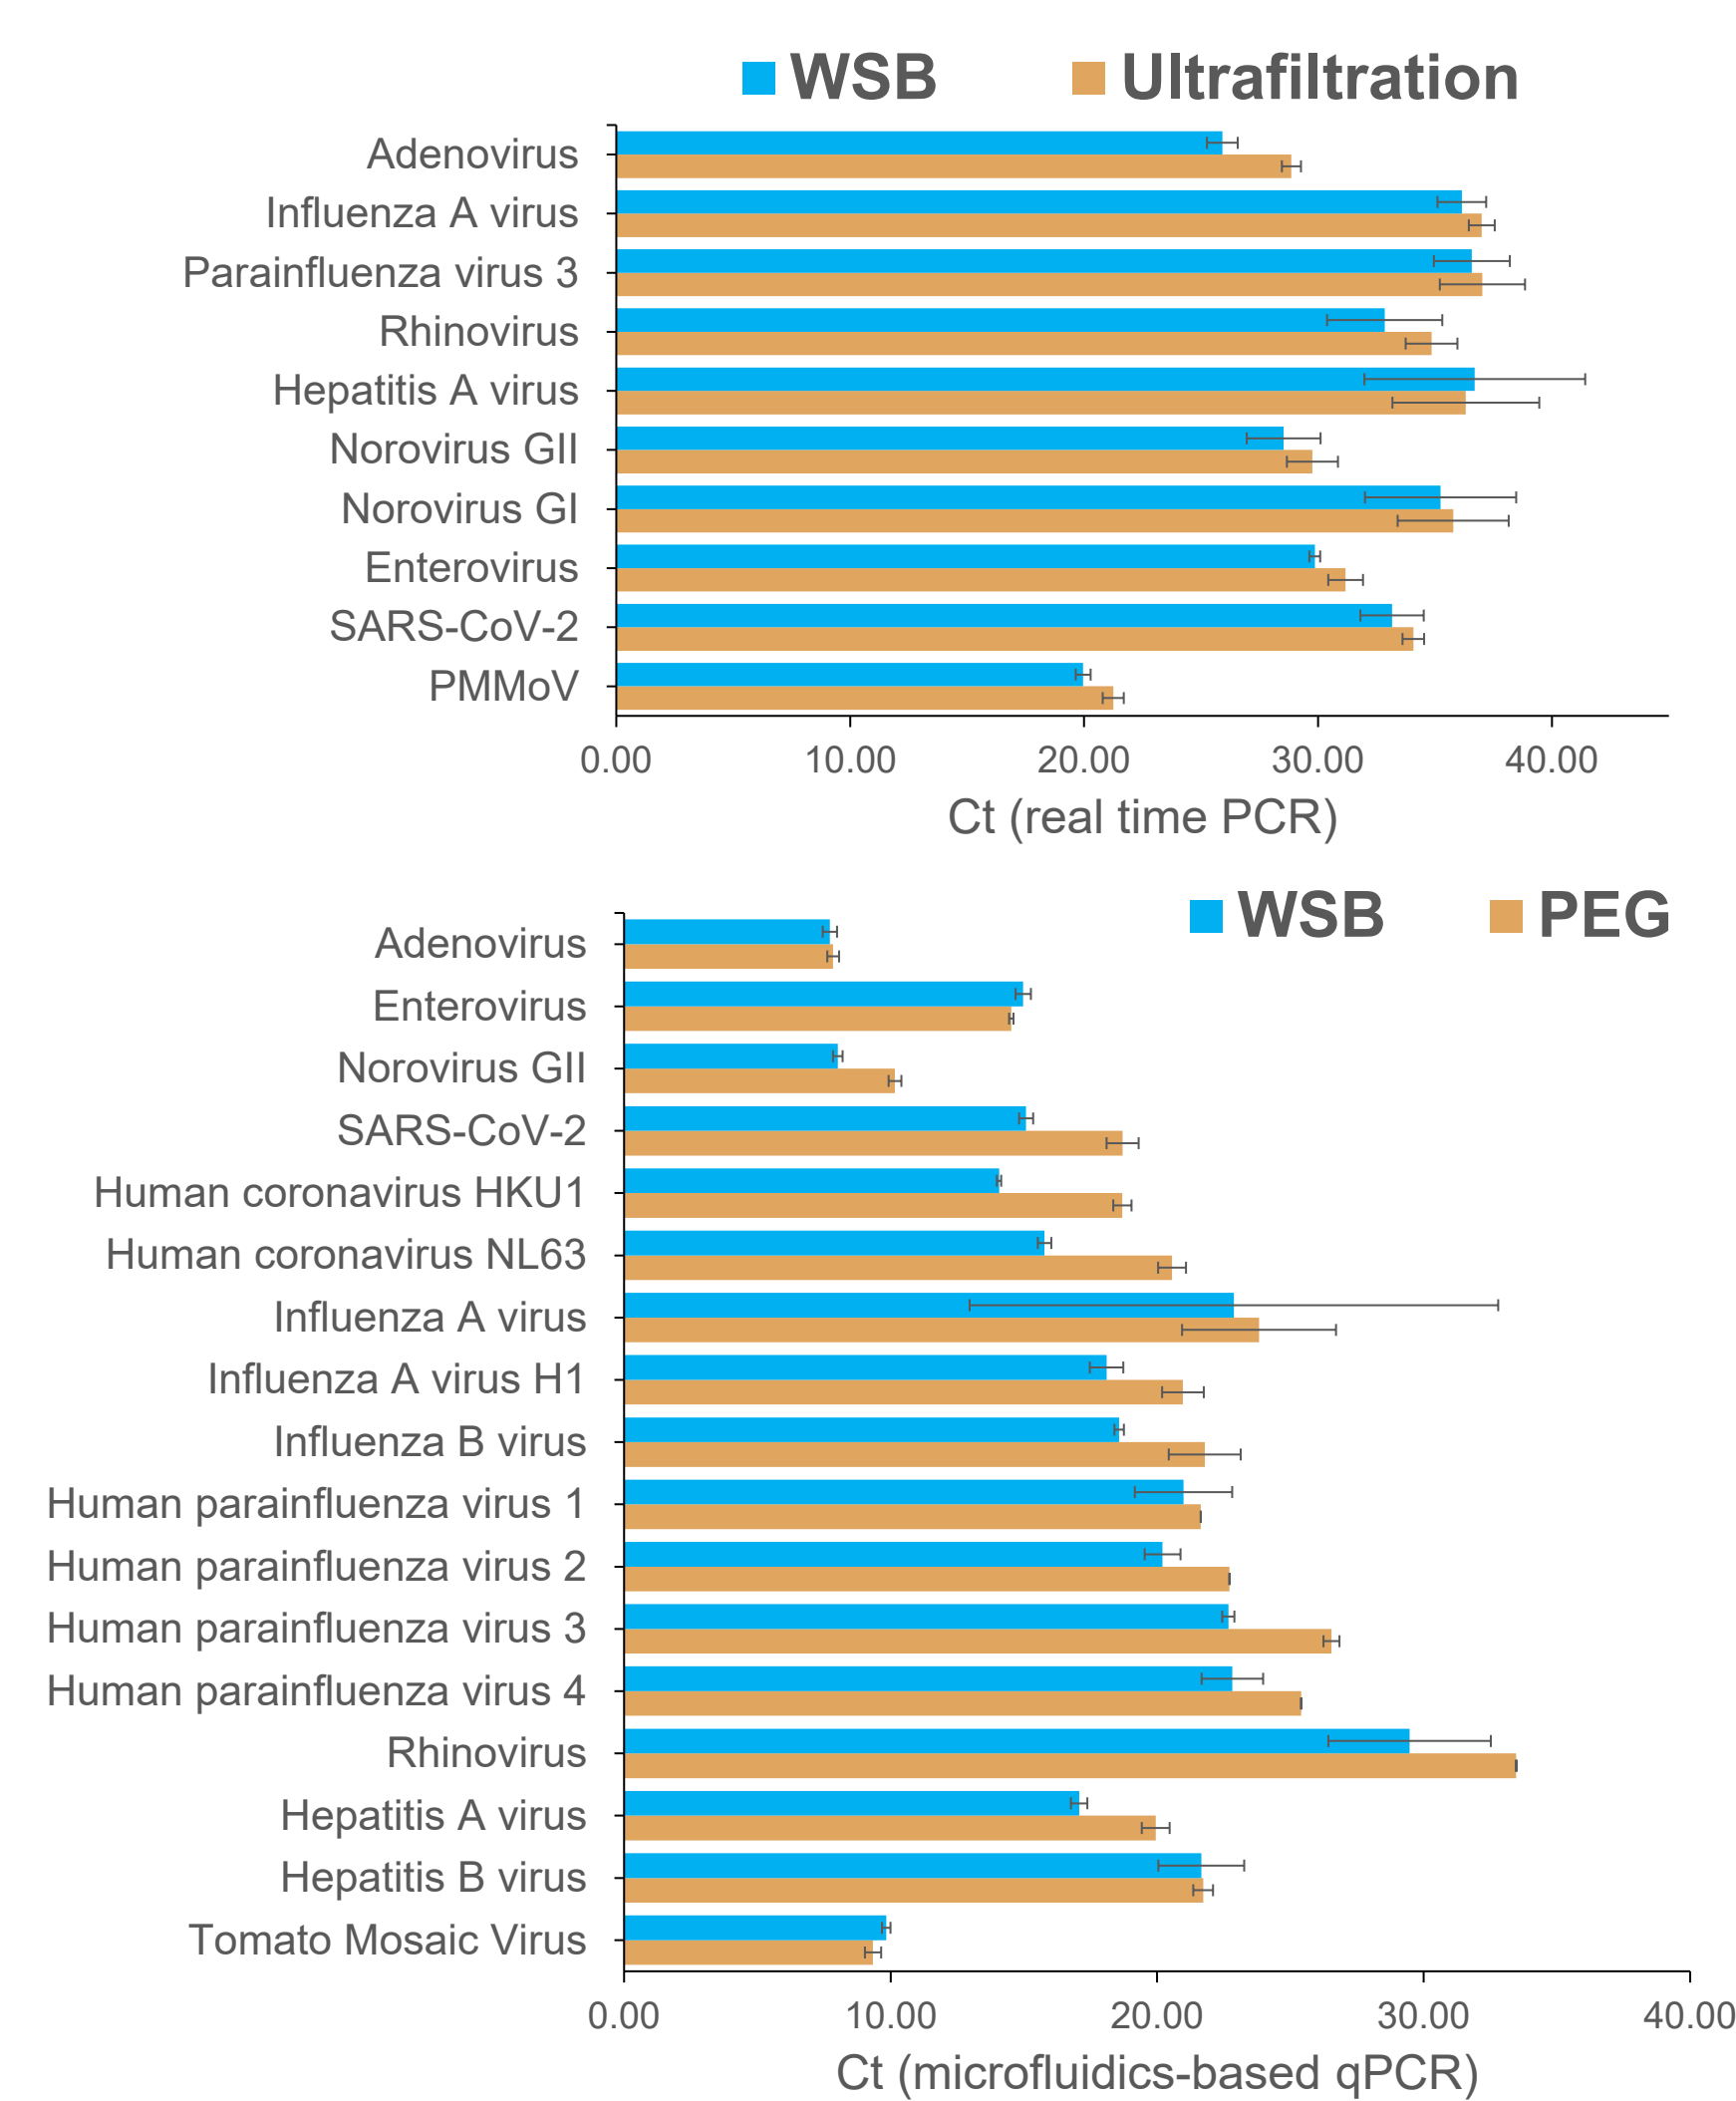
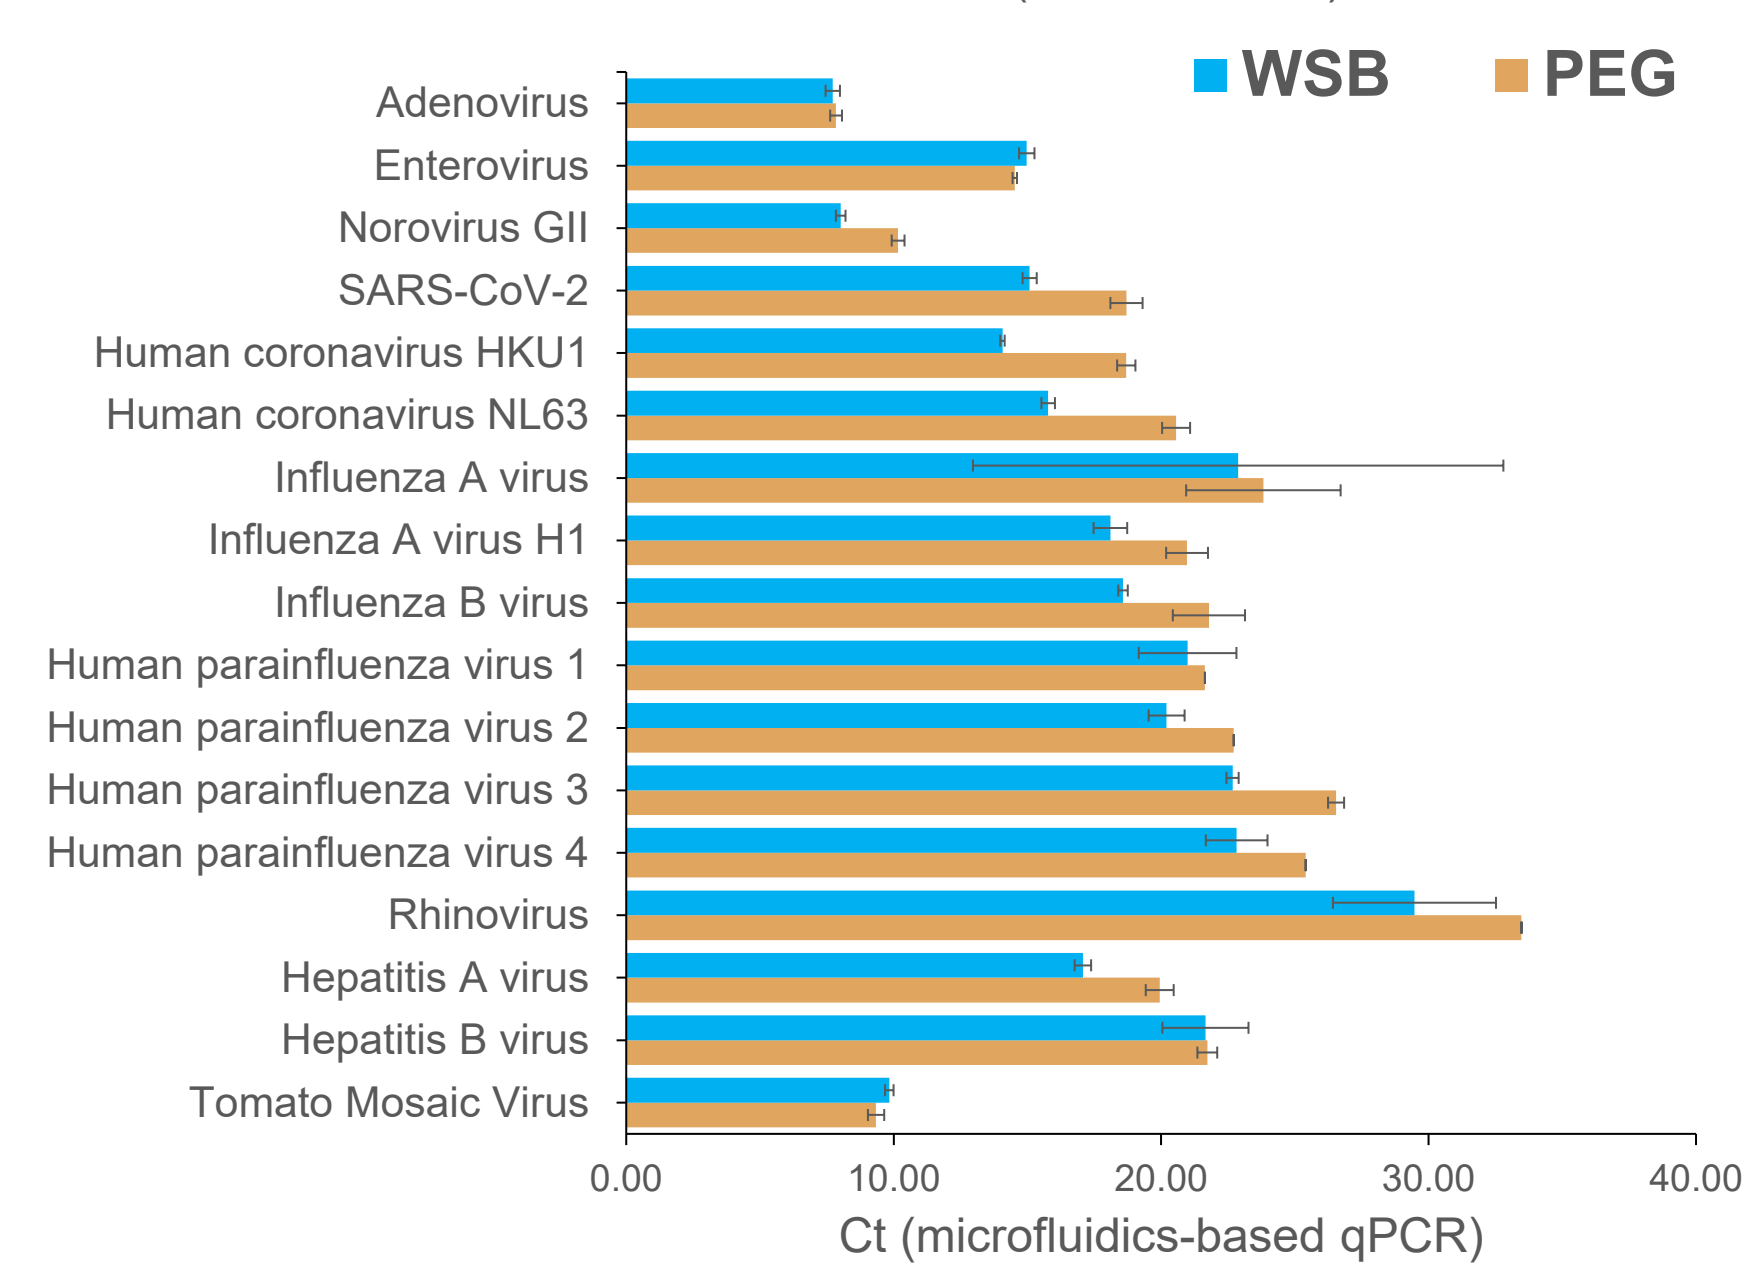

Fig. 2 Comparative standard real-time PCR analysis of viruses concentrated using WSB (blue) or vacuum ultrafiltration (orange).
Fig. 3 Comparative microfluidics-based qPCR analysis² of viruses concentrated using WSB (blue) or PEG precipitation³ (orange).
- **Concentrates nucleic acids**, removing the dependence on laborious ultrafiltration (Fig. 2) or PEG precipitation (Fig. 3)